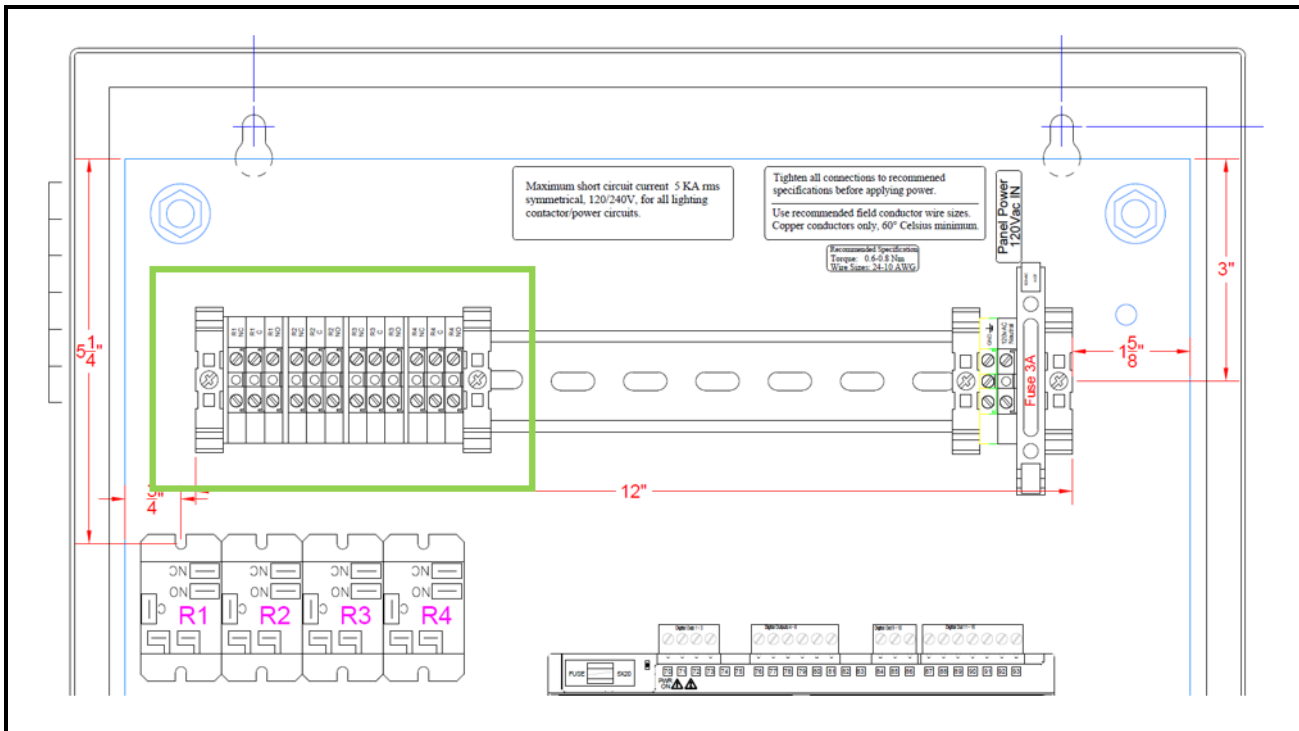

Figure 2-7 - 10 DIN Panel Relay Wiring
The 10 DIN control panel comes factory-wired with four (4) single pole double throw pilot relays with form C contacts (Emerson P/N 221-1132). The relay coil (24VAC) circuit is already factory-wired to the I/O Module Onboard relays; R1 pilot relay is controlled directly from the I/O Module relay 1. Installers need only to make connections to the factory terminal block for the load circuit that needs to be controlled. The pilot relay specifications can be found in the Table 2-1 and the panel terminal strips are shown in Figure 2-7.